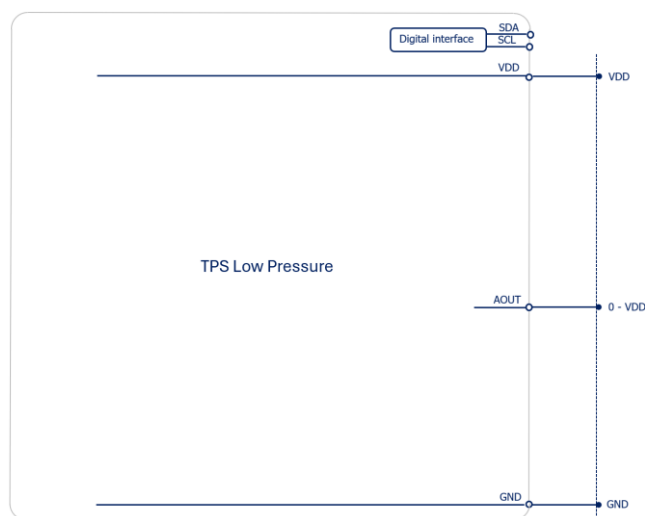

Figure 7: Ratiometric analog output
1. Following the standard communication for a three-pin module, AOUT is connected to the SDA pin, as depicted in the image above (Figure 7).